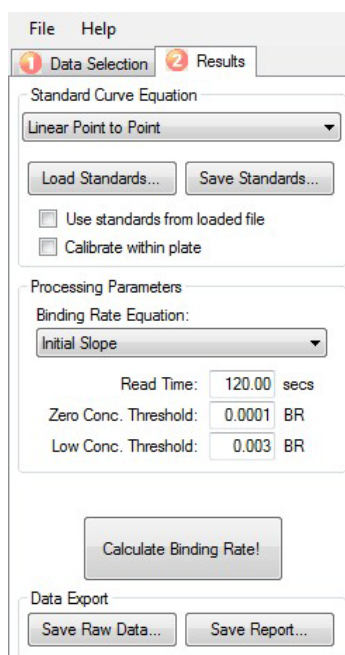

FIGURE 3.5. DATA PROCESSING IN OCTET DATA ANALYSIS SOFTWARE.
- 2.1. Click on the **Results** tab (Figure 3.5).
- 3.3. Click on **Save Report** button to export data (Figure 3.5).